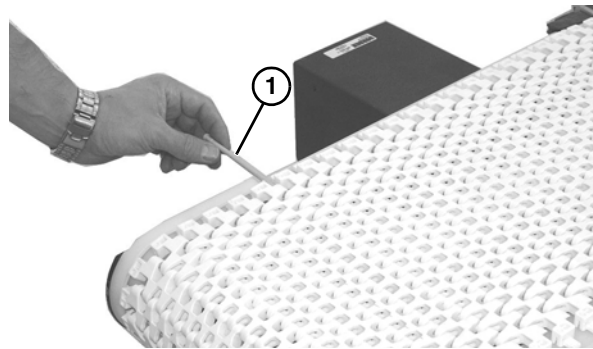

Figure 16
6. Insert the belt rod (**Figure 16, item 1**).